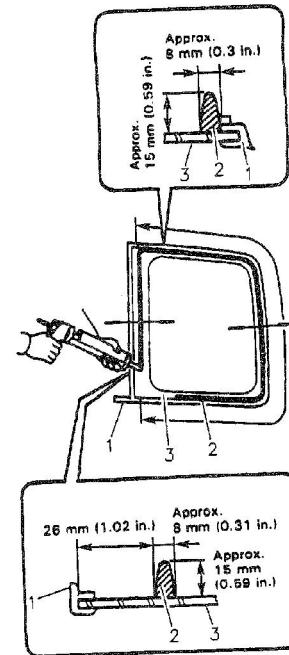

Figure 21—Applying Adhesive to Quarter Window
4. Using a cartridge-type caulking gun, apply a smooth continuous bead of urethane adhesive around primed surface edge of quarter window (Figure 21).
- Adhesive height for quarter window should be 15 mm (0.59-inch). (Figure 21).